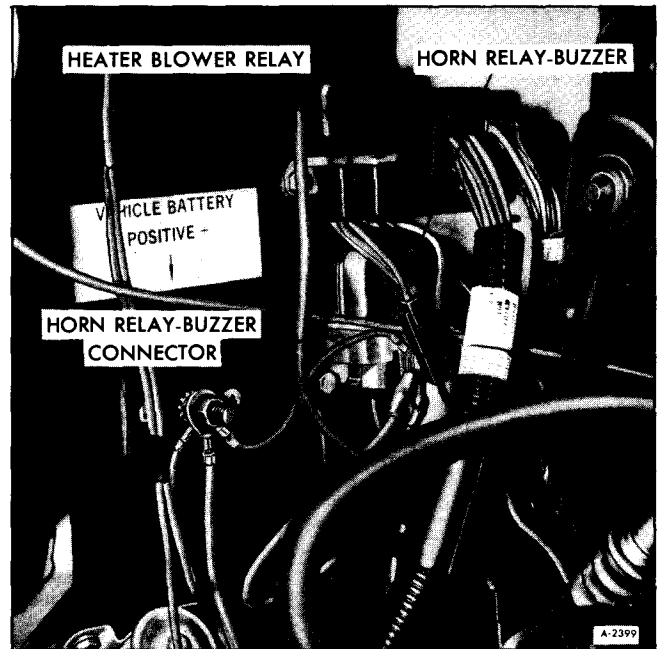

Figure 44—Horn Relay-Buzzer Installation
The horn relay-buzzer (figure 44) includes both the horn relay and door buzzer. The horn relay-buzzer operates when the vehicle door is open with the ignition key in the switch and the switch in the "off" position. Closing the door or removing the key will stop buzzer operation. The relay is located behind the right front access door.
2. Remove horn relay buzzer connector (figure 44).
3. Remove the (2) retaining screws and remove convector (See figure 44).